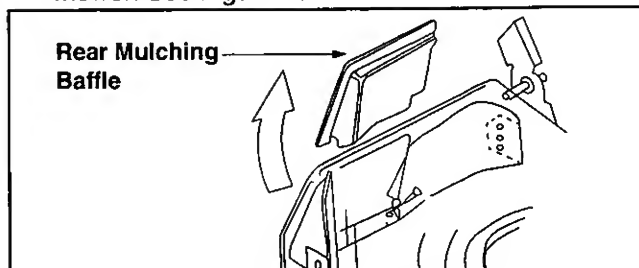

Figure 10
- Remove the mulching baffle in order to install and use the grass catcher. Lift the rear discharge door and remove the rear mulching baffle from the mower. See Figure 10.